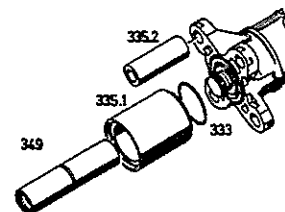

Fig.50
Fit O-ring (333). Slip on pipes (335.1 and 335.2) (**Fig.50**).